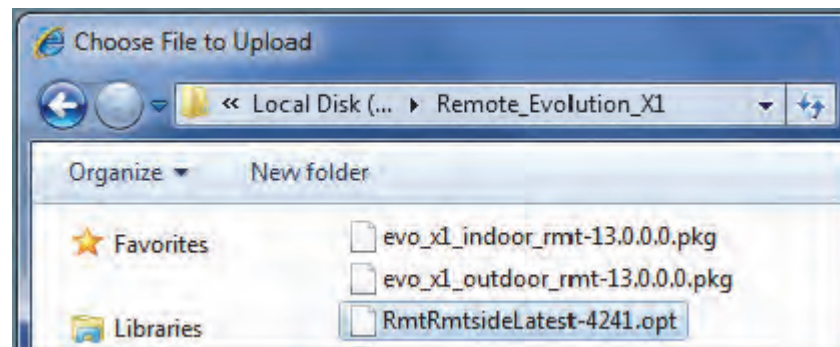

Figure 5-12. Selecting the Options File
- Click the **Browse** button in the **Load Options File** section of the File Management page, to locate and select the appropriate options file. See Figure 5-12.